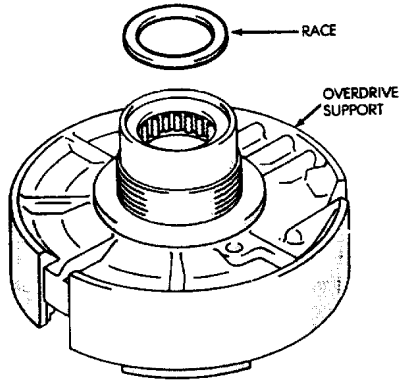

Fig. 27 Remove Overdrive Support Race
(35) Remove race from hub of overdrive support (Fig. 27).
(36) Measure stroke length of second coast brake piston rod as follows: